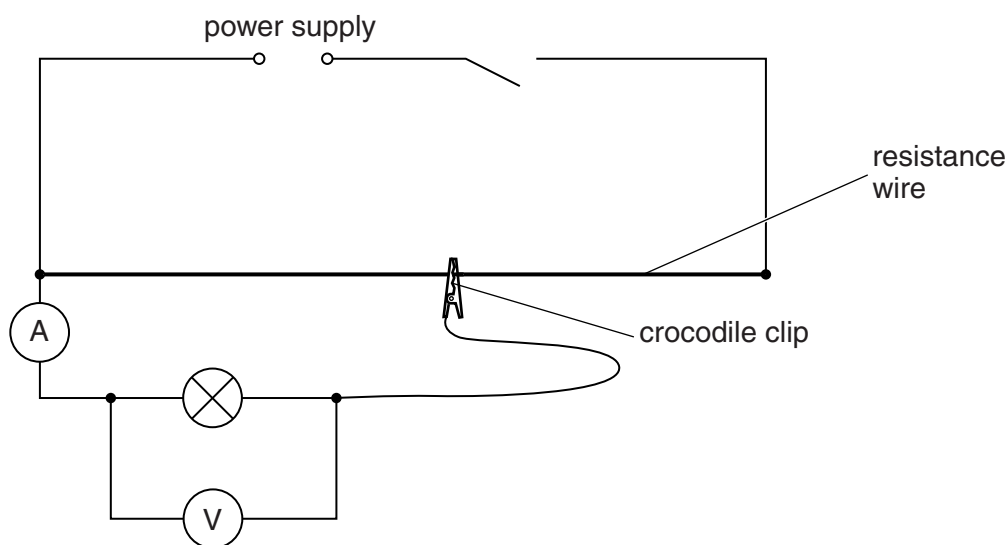

Fig. 2.1
- (vi) Sufficient connecting leads to set up the circuit shown in Fig. 2.1. See note 2.
2. The circuit is to be set up for candidates as shown in Fig. 2.1, with the crocodile clip clipped to the resistance wire. The position of the crocodile clip is not important.
Ensure that the circuit is connected as shown in Fig. 2.1 and check that the circuit is working. Switch the circuit off.